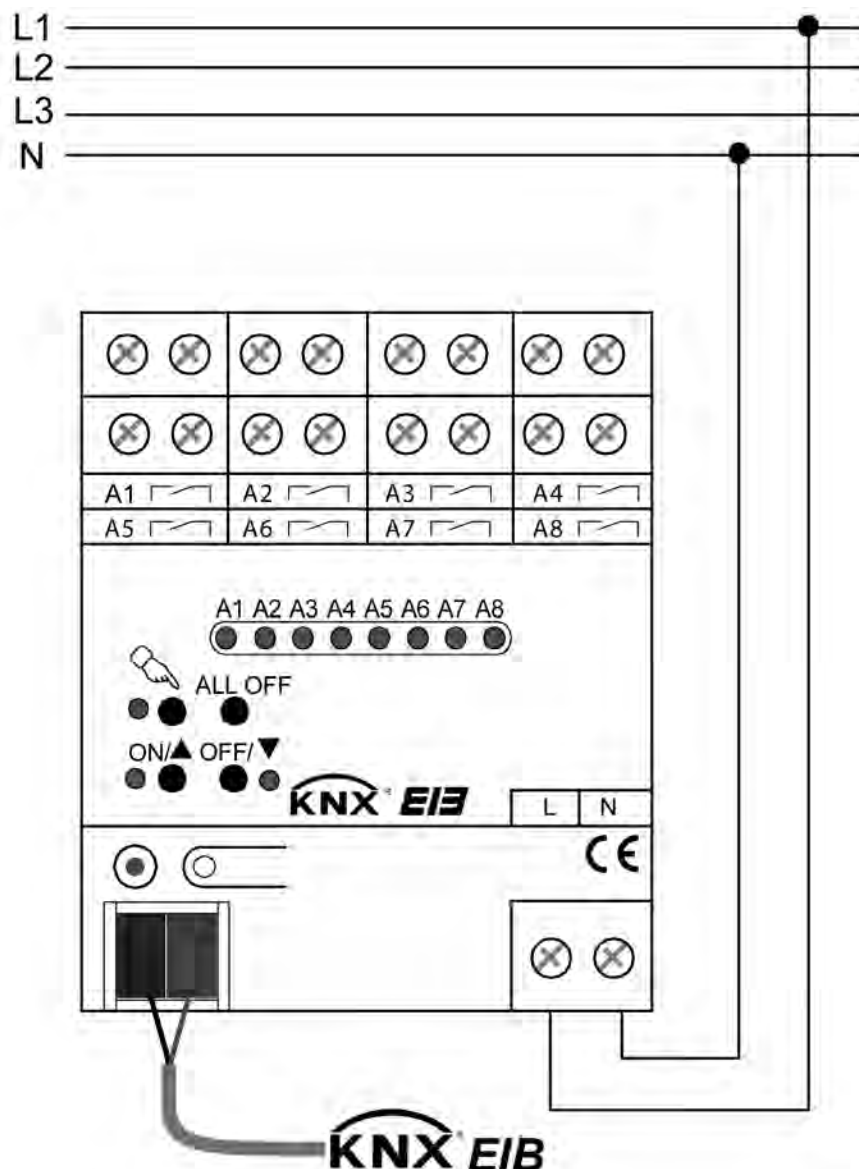

Figure 2: Electrical connection of mains voltage
- The bus connection (standard bus terminal) and the connection for the mains voltage supply should be carried out according to the following connecting diagram (figure 2).